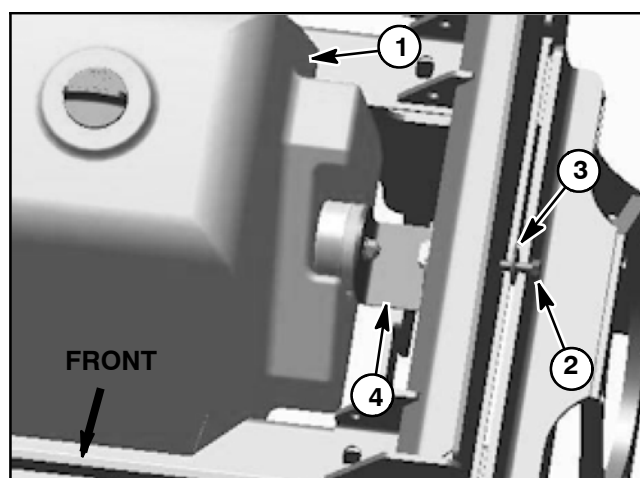

Figure 53
1. Position hydraulic reservoir to machine. Make sure that recess bumper (item 3) on right side of frame is inserted into tank slot.
2. Slide tank mount assembly (items 15, 16, 3, 17, 18 and 19) between frame and hydraulic tank and position bumper into slot on left side of reservoir. Align tank mount with hole in frame. Secure mount with cap screw and flat washer (Fig. 53).